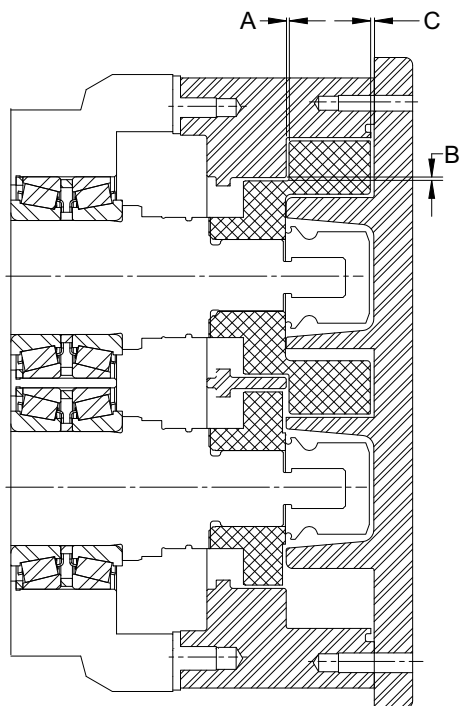
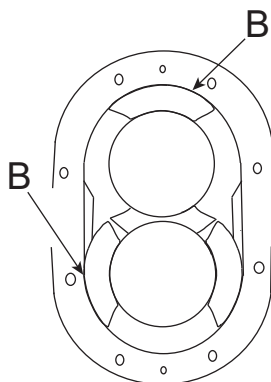

Figure 210 - Measure Clearance
Figure 211 - Measure Clearance
9. Measure the rotor backface clearance (Figure 210, item A) through the port or from the front. The backface clearance for both rotors must be the same to prevent rotor crossover contact and must be ± 0.0005 " of the value found in Table 18, "Rotor Clearances," on page 89.
10. Check the rotor front face clearance (Figure 210, item C).
11. Check the rotor to body clearance (Figure 210 and Figure 211, item B).